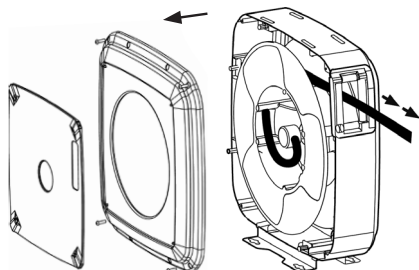

FIG 15.
1. Pull the hose out and let the hose get latched (Fig.15).